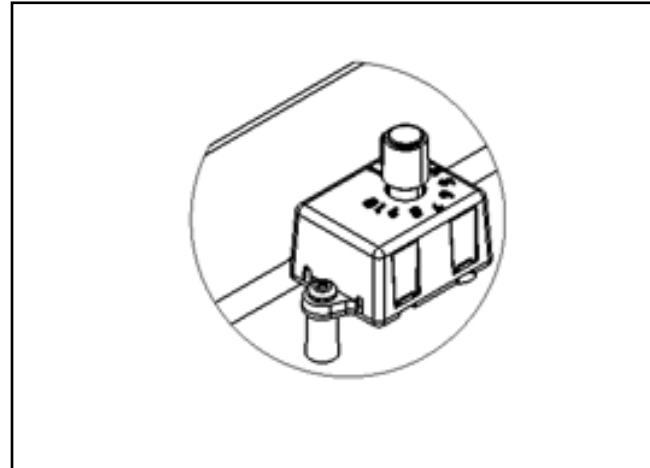

Figure 1.
1. Open access door and locate FADC.(Figure 1)